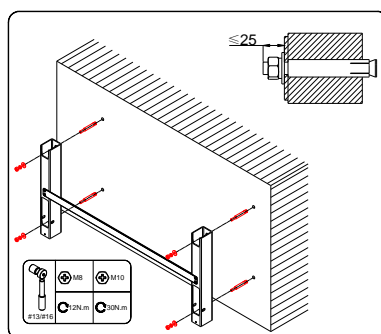

FIG 3-9 Wall-mounted installation
Step 3: Fix the mounting bracket using spring washers, flat washers and the nuts of the expansion bolts (FIG 3-9).